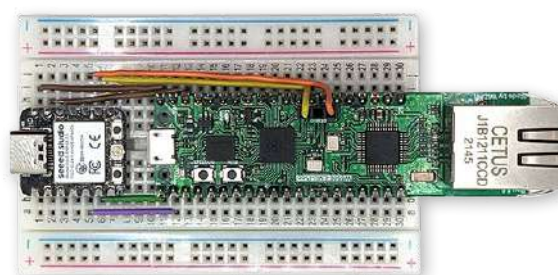
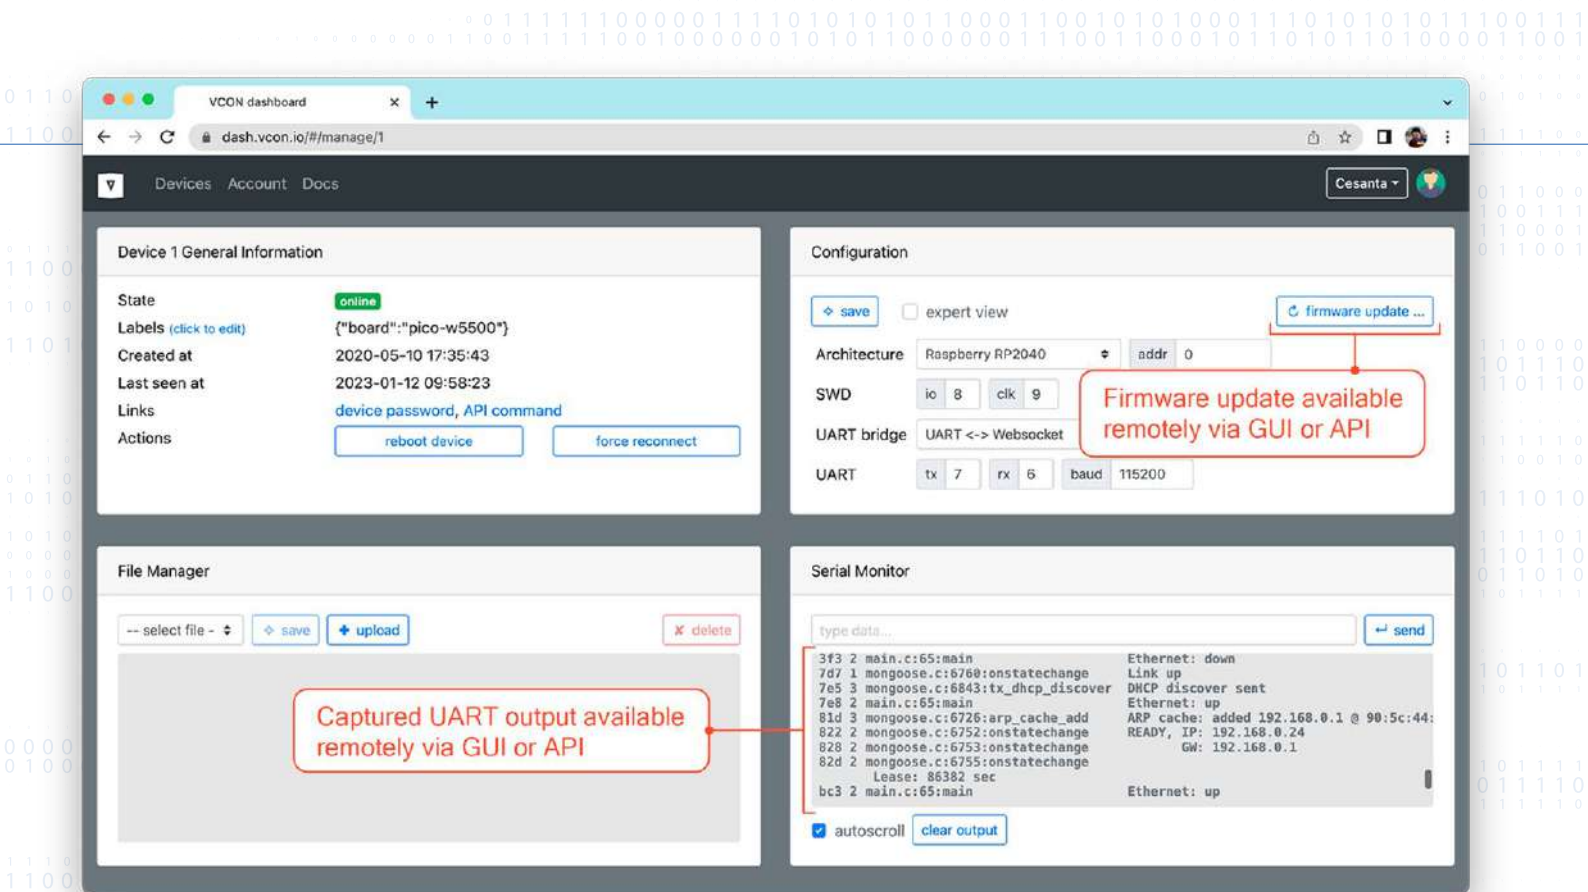

Figure 2: Configured device breadboard setup.
Figure 3: Configured device dashboard.
**Figure 2** shows how a configured device breadboard setup may look. **Figure 3** shows how a configured device dashboard looks.